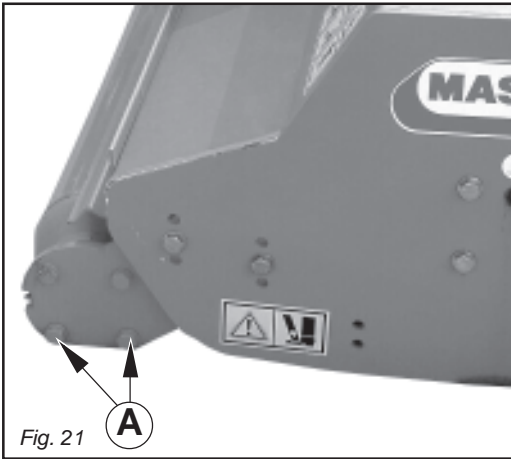

Fig. 21
- Svitare completamente e togliere i bulloni (A Fig. 21).
- Completely unscrew and remove the bolts (A Fig. 21).
- desurubati buloanele complet si indepartati-le (A Fig. 21);